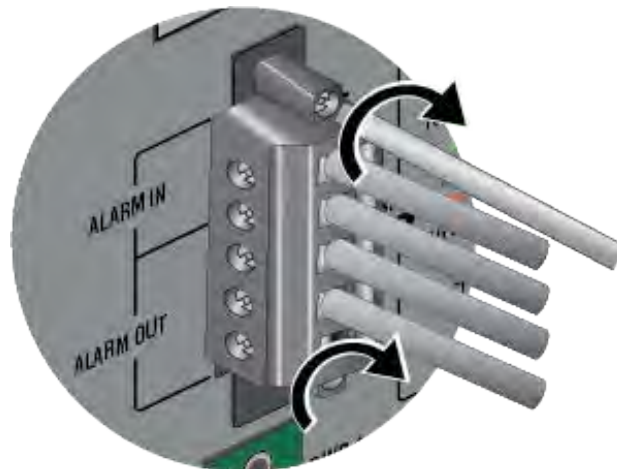

Figure 59. Securing the ALARM IN / ALARM OUT Plug to the Switch
10. Tighten the two captive screws to secure the ALARM IN / ALARM OUT plug to the switch. Refer to Figure 59.